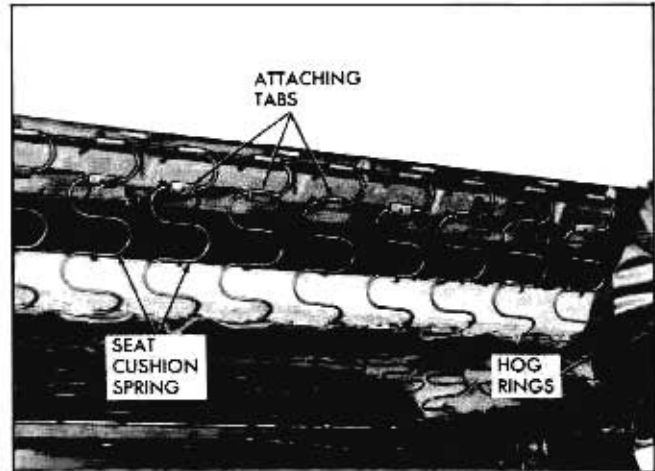

Fig. 10A-67 Front Seat Cushion Spring Attachment
2. Remove hog rings securing central portion of lower rear edge of seat back trim from front seat cushion spring assembly (Fig. 10A-67).
3. Raise trim and remove cardboard breakover foundation to expose seat cushion spring attachment to seat back frame along rear of seat and hog rings securing ends of seat back trim to seat bottom frame (Fig. 10A-67).
4. Bend open tabs securing seat cushion spring assembly to seat back frame and carefully disengage springs from tabs (Fig. 10A-67).